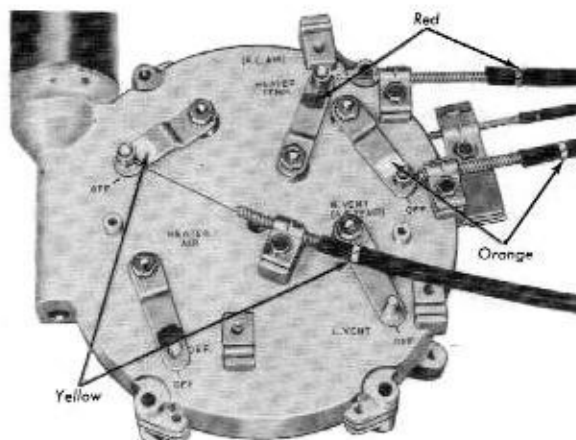

Fig. 5-6—Control Cables Installed—Ranger and Pacer—1958—(E-2642)
4. Install the cables on the external arms, matching the color code on the external arms with that on the cable conduit bands. (See figures 5-6 and 5-7.) Install the cable clamps and tighten the clamp screws.